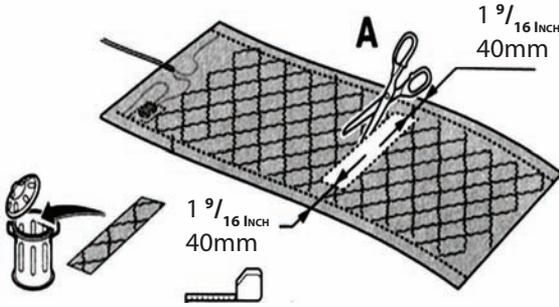

Figure 5
9. Once the area that needs to be cut out is marked, remove the heating pad from the cushion. Measure in (towards Center of pad) on each side $1 \frac{9}{16}$ inch (40mm) and mark. This is necessary to ensure that the main power supply for the heating pad does not get damaged or cut. Refer to Figure 5.